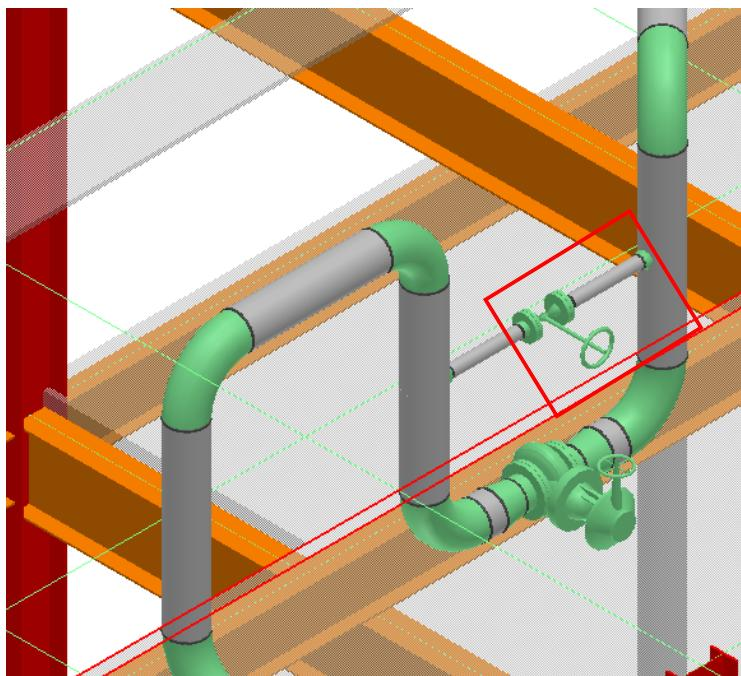

Figure 22: Placed Instrument
- Click **Finish** on the **Insert component** ribbon to place the instrument, as shown in Figure 22.